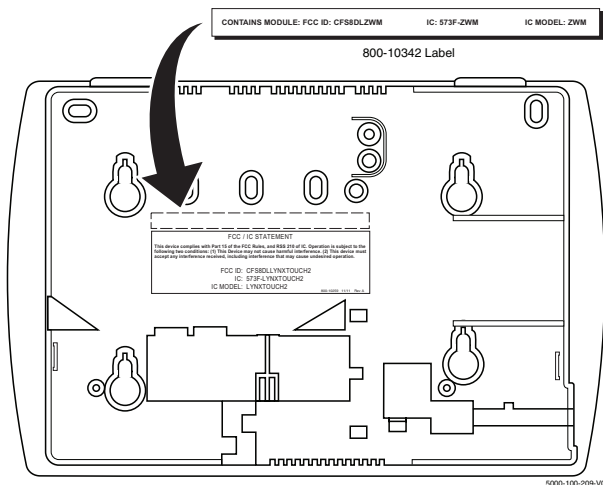

Figure 1. FCC/IC Label Location (L5200 Shown)
1. Install the provided FCC/IC label (P/N 800-10342) on the control's case back (refer to Figure 1).